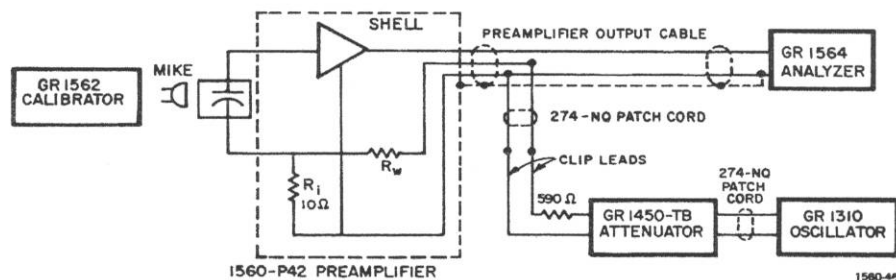

Figure 4-4. Setup for comparison of unknown with reference microphone.
a. Make the setup shown in Figure 4-4. The 590- Ω resistor at the attenuator output provides the proper 600- Ω load for the attenuator when the 10- Ω insert resistor is driven. Power for the Preamplifier is furnished by the 1564.